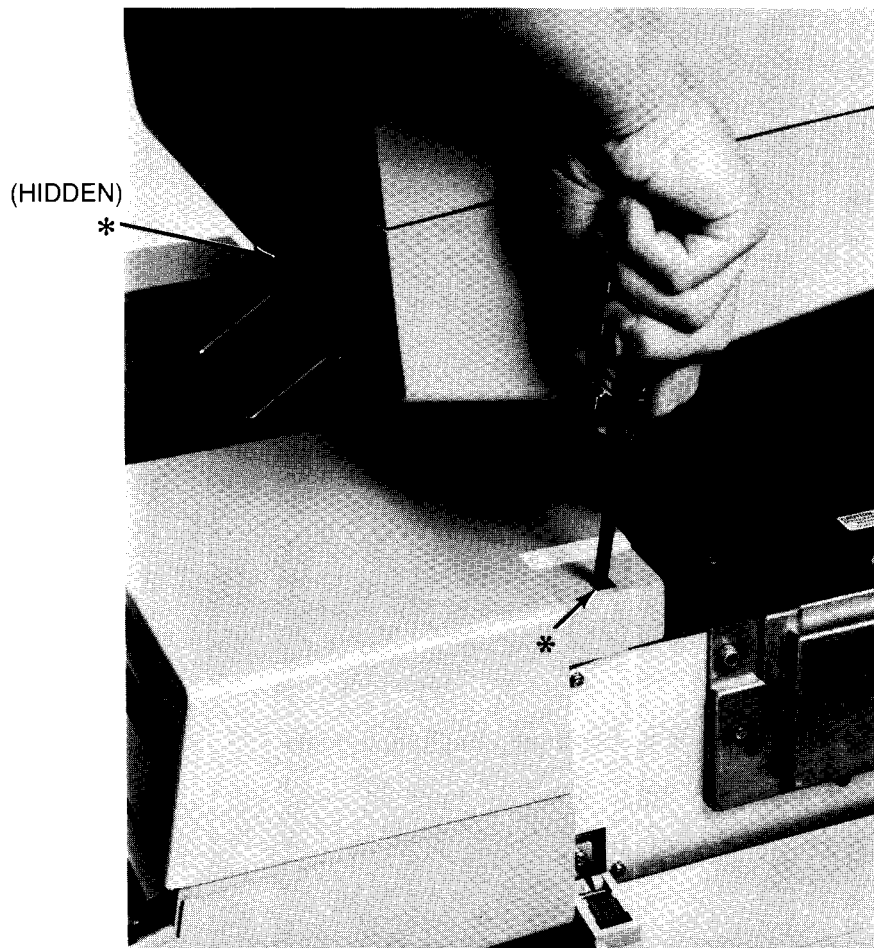

Figure 4-4. Removing Keyboard Bezel
3. Remove keyboard bezel by grasping as shown in Figure 4-4 and pulling up on bezel. Raise front of bezel until back of bezel clears front cover and bezel can be pulled out and away from computer.